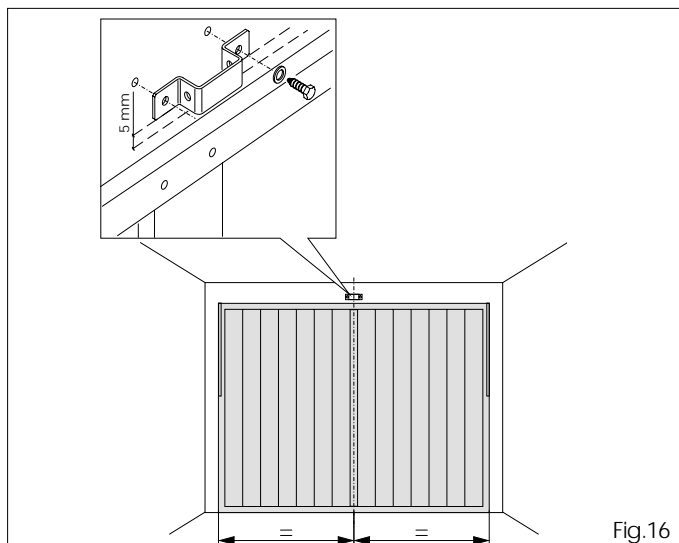

Fig.16
- 6.3 Position the securing bracket 5 mm above the line you had marked, which must be centered with respect to the door (fig. 16).
- 6.5 Next, using screws and washers, screw the bracket on the expansion plugs (fig. 16).